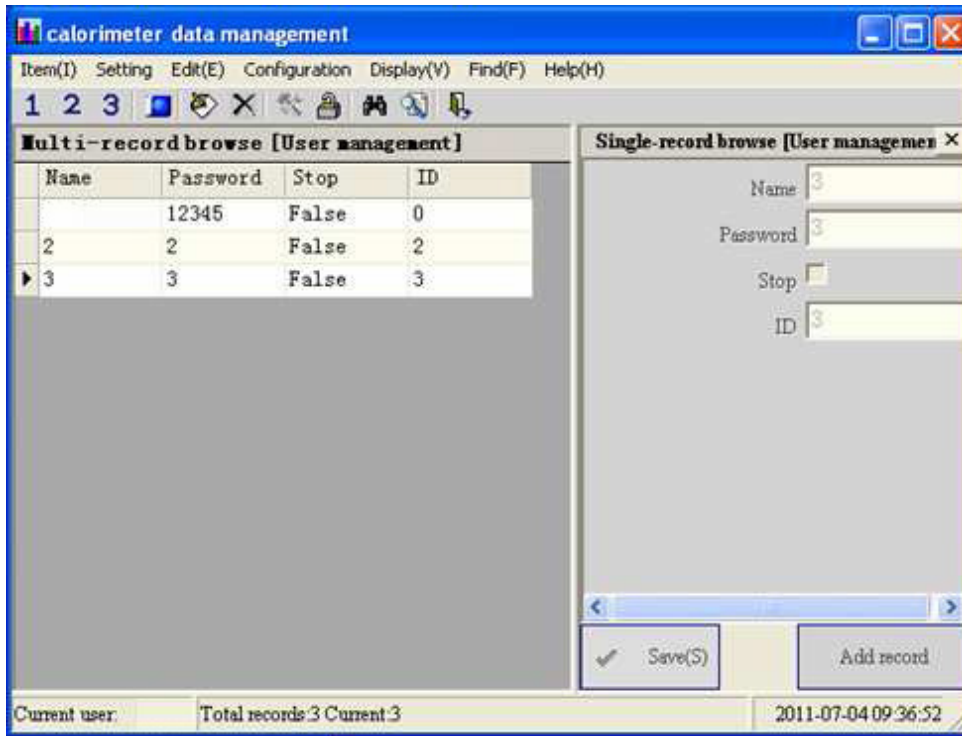

Fig.5-8
3. User management: This option is used to add, modify and delete the user and determine the authority level of usage. For details, please refer to Fig. 5-8.